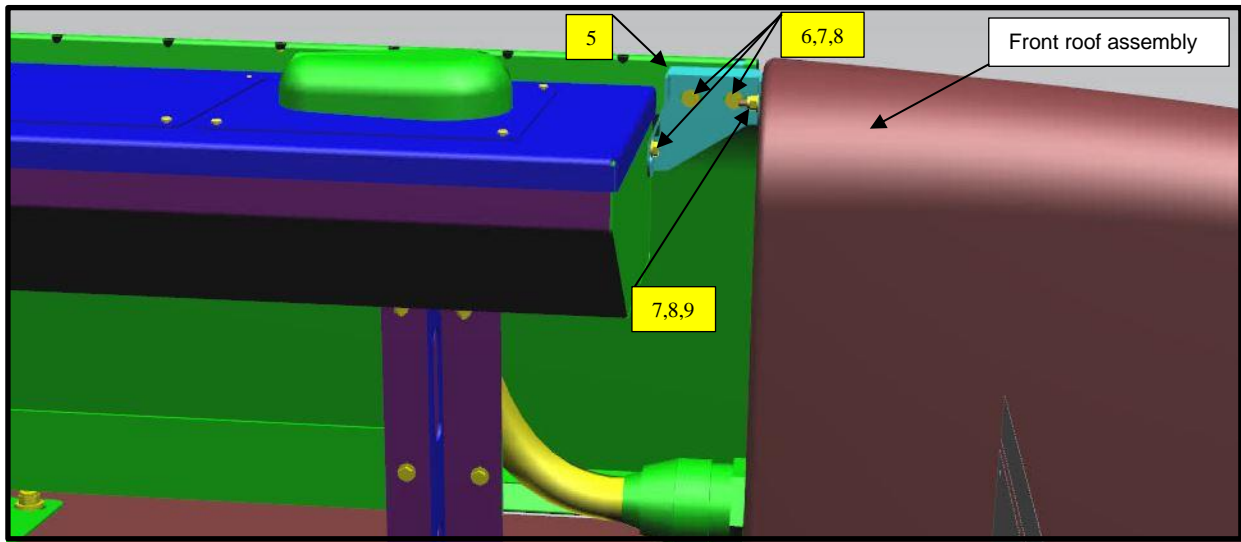

Figure 4: Antenna pedestal front mounting bracket location
12. Install mounting hardware on front roof assembly stud to #5 front mounting antenna bracket with #7 Washer, #8 Nut and apply 1 or 2 drops of Loctite item #9 to the threads as shown. See Figure 4.